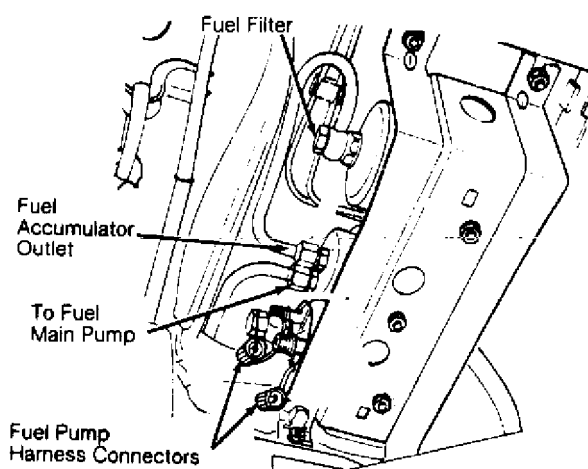

Fig. 4: Identifying Main Fuel Pump (Fox & Jetta GLi)
1) Disconnect wire harness connector from fuel pump. See Fig. 4. With voltmeter attached to terminals, activate fuel pump by removing fuel pump relay and applying battery voltage to terminals No. 4 of the fuse box connection for the fuel pump relay. Fuel pump relay located on fuse box housing. Terminal numbers are molded into fuse box plastic housing.
2) Record voltage. Remove fuel line from outlet side of accumulator. See Fig. 4. Attach a piece of hose between return line and a graduated container. Activate fuel pump for 30 seconds. Compare volume with specifications given in MAIN FUEL PUMP VOLUME (AFC-Digifant II) table.